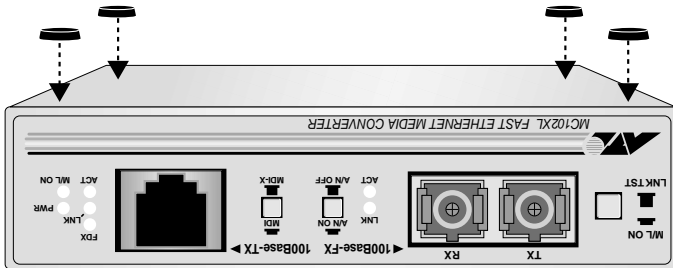

Figure 5 Attaching the Protective Feet
4. Attach the four protective rubber feet to the bottom of the media converter. See Figure 5. **Do not attach the protective feet if you are installing the unit in an AT-MCR12 chassis.**